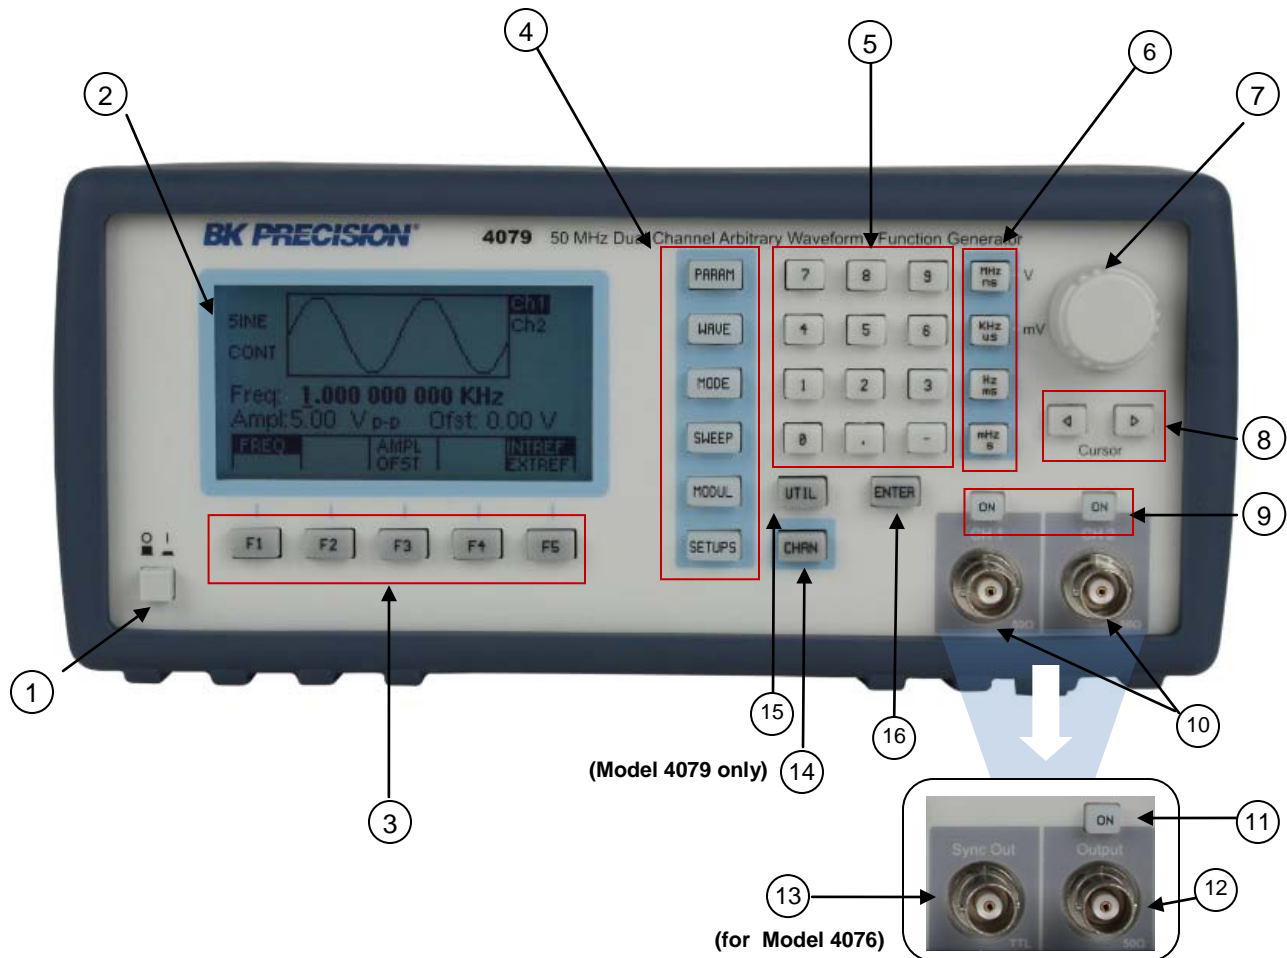

Figure 3.1 - Front Panel View
The front-panel controls select, display, and change parameter, function, and mode settings. They also include the keys you use to program and generate arbitrary waveform output. *Refer to Figure 3.1.*
2. **CH1 Sync** - This is the sync output of channel one. For model 4076 the sync output is in the front panel of the instrument (see Figure 3.1).
4. **CH2 Sync** - This is the sync output of channel two. For model 4076 the sync output is in the front panel of the instrument (see Figure 3.1).